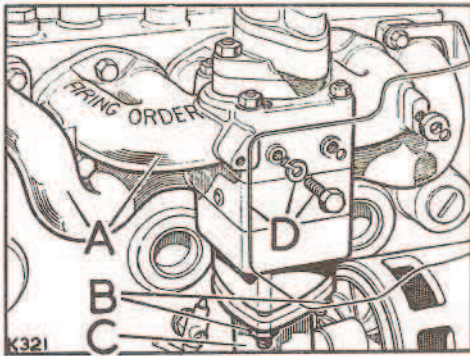

Fig. A1-30. Front exhaust pipe fixings
2. Refit the front exhaust pipe, see Fig. A1-30.